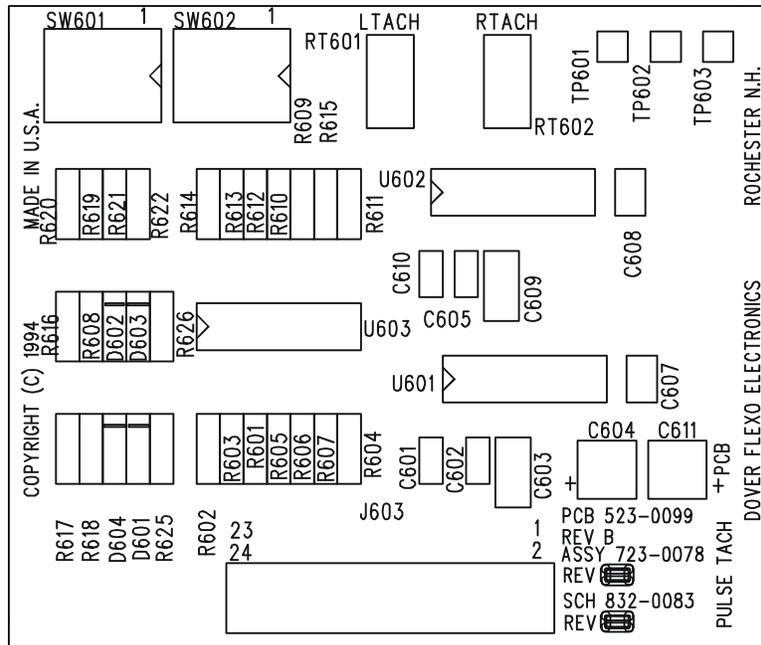

Figure 19 - PULSE TACHOMETER CARD
2. Pulse Tachometer Card calibration (see Figures 19, 21 for locations of switches and adjustments)